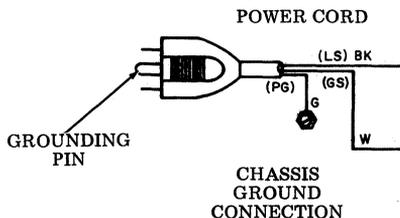

Fig. 1
2.01 Check continuity between power cord plug grounding pin and cabinet or chassis ground connection (Fig. 1). The resistance reading should be essentially zero ohms with VOM RX1 range.